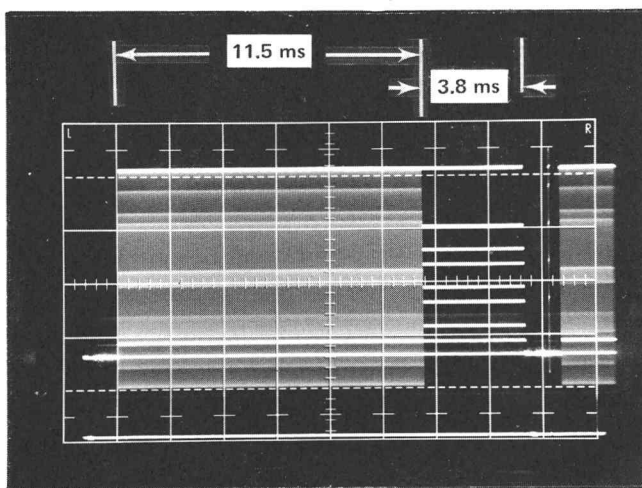

Fig. 5-12. Typical display to check split field operation.
e. CHECK—Test oscilloscope display; the color bar chrominance signal should occupy 11.5 ms of the field (see Fig. 5-12). The last active lines (3.8 ms) of the field should contain only the luminance portion of the color bar signal.